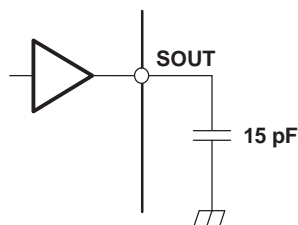
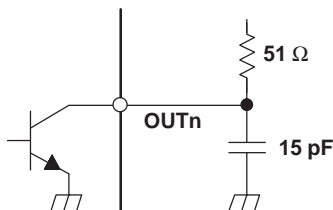
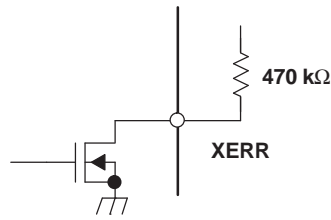

Figure 4. Test Circuit for  $t_{r0}$ ,  $t_{f0}$ ,  $t_{pd0}$ ,  $t_{pd1}$
Figure 5. Test Circuit for  $t_{r1}$ ,  $t_{f1}$ ,  $t_{pd2}$ ,  $t_{pd3}$ ,  $t_{pd5}$ ,  $t_d$
Figure 6. Test Circuit for  $t_{pd4}$
- (1) See Figure 4. Defined as from 10% to 90%
- (2) See Figure 5. Defined as from 10% to 90%
- (3) See Figure 4, Figure 14
- (4) "↑" and "↓" indicates a rising edge, and a falling edge respectively.
- (5) See Figure 5 and Figure 14
- (6) See Figure 5, Figure 6, and Figure 14
- (7) See Figure 5